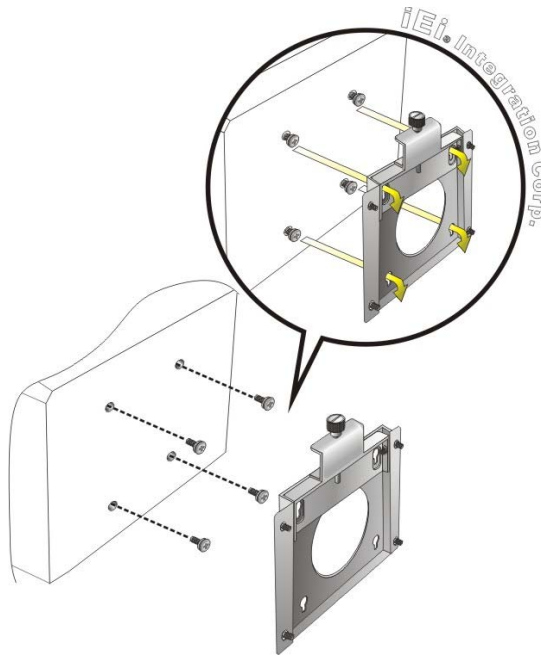

Figure 3-12: Chassis Support Screws
Step 6: Insert the four monitor mounting screws provided in the wall mounting kit into the four screw holes on the rear panel of the IOVU-752S and tighten until the screw shank is secured against the rear panel (**Figure 3-12**).
Step 8: Carefully insert the screws through the holes and gently pull the monitor downwards until the monitor rests securely in the slotted holes (**Figure 3-12**). Ensure that all four of the mounting screws fit snugly into their respective slotted holes.